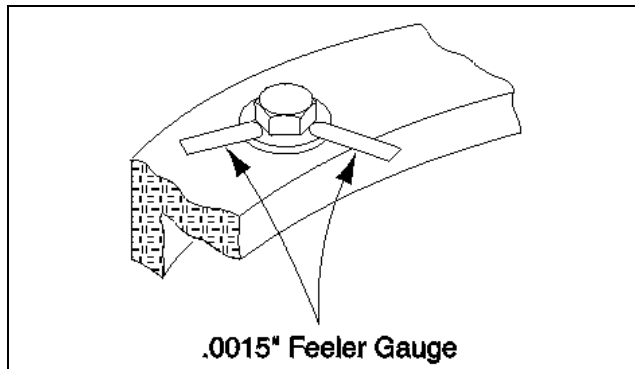

Figure 3-41. Swing Bolt Feeler Gauge Check
- b. At the positions indicated on Figure 3-41. try to insert a 0.0015" feeler gauge between the bolt and hardened washer at the arrow indicated position.
- d. At the position indicated on Figure 3-41., try and insert the 0.0015" feeler gauge between the bolt head and hardened washer at the arrow indicated position.